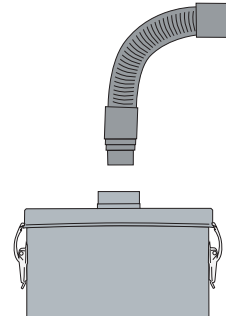

figure 5
2. Remove the flexible hose from unit lid adaptor (**figure 5**).